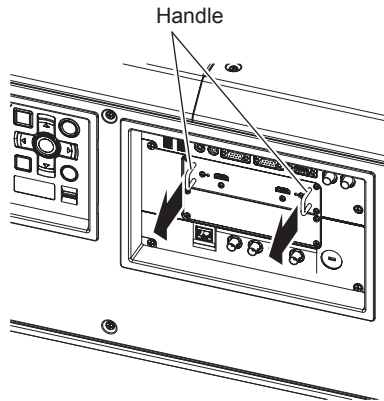

Fig. 1
1) Remove the slot cover. (Fig. 1)
1) Remove the Interface Board. (Fig. 1)